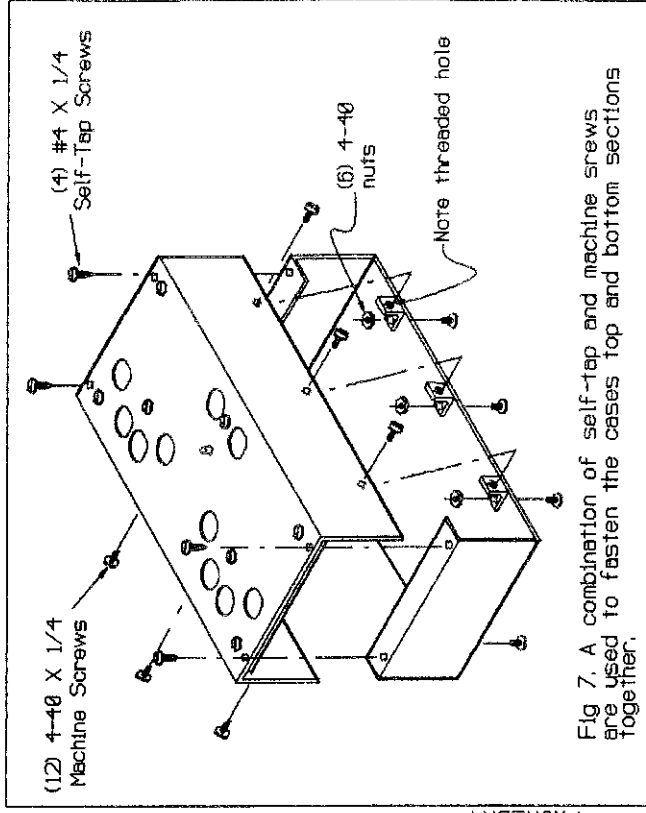

Fig 7. A combination of self-tap and machine screws are used to fasten the cases top and bottom sections together.
- () Using (6) 4-40 X 1/4 machine screws and (6) 4-40 nuts, attach the (6) "L" brackets to the case bottom as shown in Fig 7. Notice that the "L" brackets each have one threaded hole and one unthreaded hole. The holes that are unthreaded are the ones used in this step.
- () Install the case bottom as shown in Fig 7. Secure it with (6) 4-40 X 1/4" machine screws through the threaded holes in the "L" brackets and (4) #4 X 1/4" self tap screws as shown. If you have not installed the Drum Brain option, cover the MIDI IN and MIDI OUT holes with the nylon hole plugs provided.
Follow the instructions normally until you reach pg 17, then refer to the material on the reverse side of this page for new "**BUTTONING UP**" instructions. The new drawing on the other side of this page replaces Fig 7 of the manual. When finished with final assembly of the FingerDrum, you will return to the original manual to continue with **CALIBRATION, SETUP** and so on.